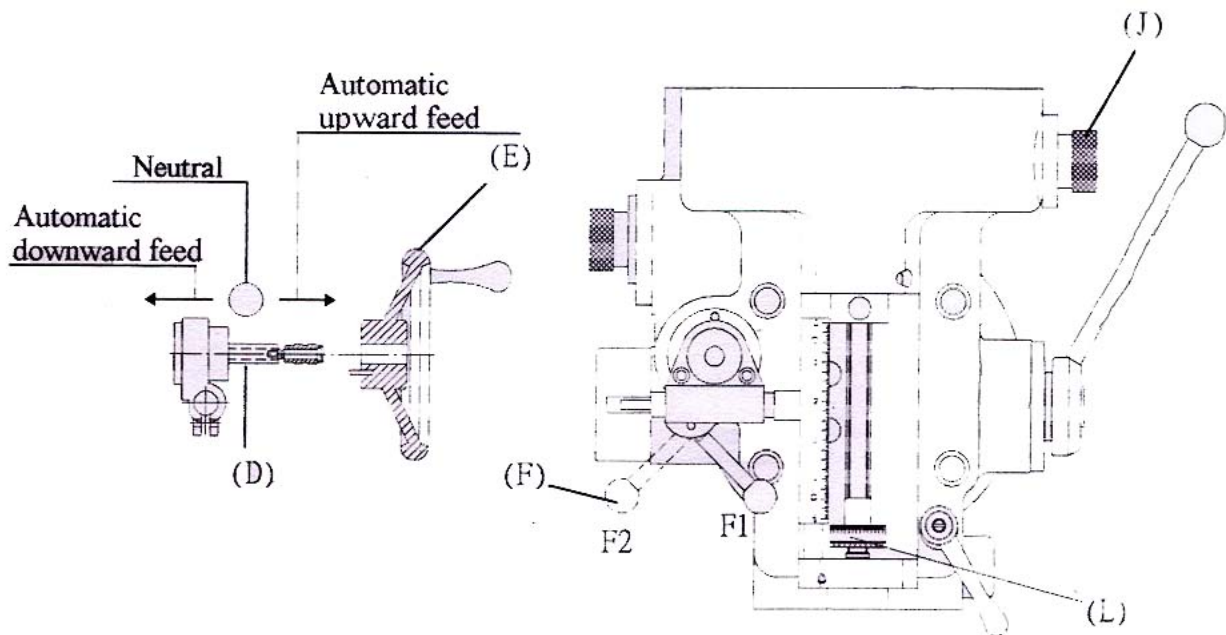

Fig.6-1
The manual feed lever is installed on the right side of head stock, (vide Fig.6-1), The spindle will travel vertically when the lever is turn. An operator can freely take out the lever and install it again at the position deemed proper and it.
NOTE: In manual feed, the feed control handle must be placed at position (F) as shown in (Fig.6-1)
To effectuate the manual micro motion feed, the power feed transmission, engagement crank (J) (Fig.6-1) shall be placed at “OUT” position, and feed reverse knob (d); at the neutral position. Feed control lever (F) must be pull from (F1) to (F2). This is to engage the overload clutch. Turn the feed hand wheel (E) clockwise for quill downward feed, and vice-versa.
For automatic feeding; please take the following steps (vide Fig.6-1)
- (5) When the feed control lever knob (D) presser inward (FIG.6-1), it is for downward feed; and vice- versa: The middle position is neutral.
2. The power feed transmission engagement crank (J) (Fig.6-1)
The speed change may be effectuated by the chosen high and low speed lever (FIG.6-1(J)). When (J) is engaged in the right front, it is for the high speed and the spindle rotate as high as 260 or 3950 rpm. The neutral lever position is in the right down.